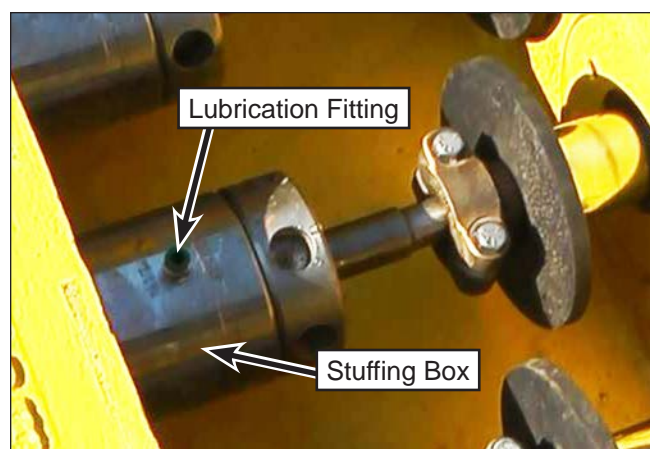

Figure 32: Lubrication Line Fittings.
18. Apply Teflon tape to the threads of the lubrication line fittings (Figure 32). Install the fittings onto the stuffing boxes.